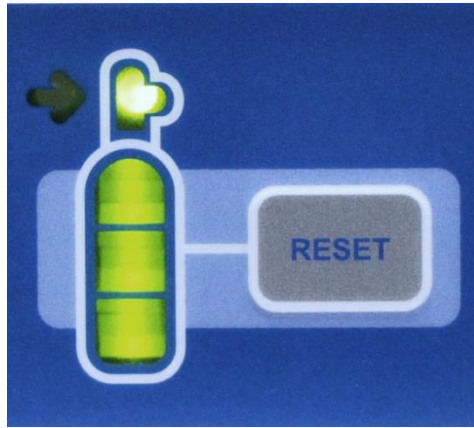

FIGURE 11: N₂O GAS GAUGE RESET BUTTON
- Find the gas cylinder display on the front of the cryoICE BOX and note the RESET button to the right of this display, see Figure 11.